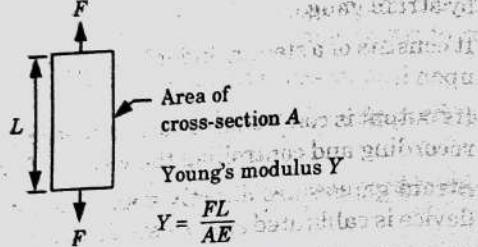

Fig. 4.16.1. Axially loaded member.
- Consider an axially loaded elastic element as shown in Fig. 4.16.1, under the action of force F , it undergoes deflection of FL/AE .